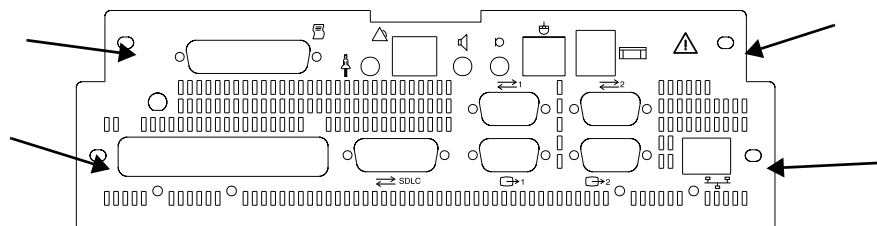

Figure 4-5: Screw placement for drawer assembly
2. Remove the screws, as identified by the arrows in *Figure 4-5*, that attach the rear panel to the monitor.
• *Figure 4-5 is not representative of all models.*